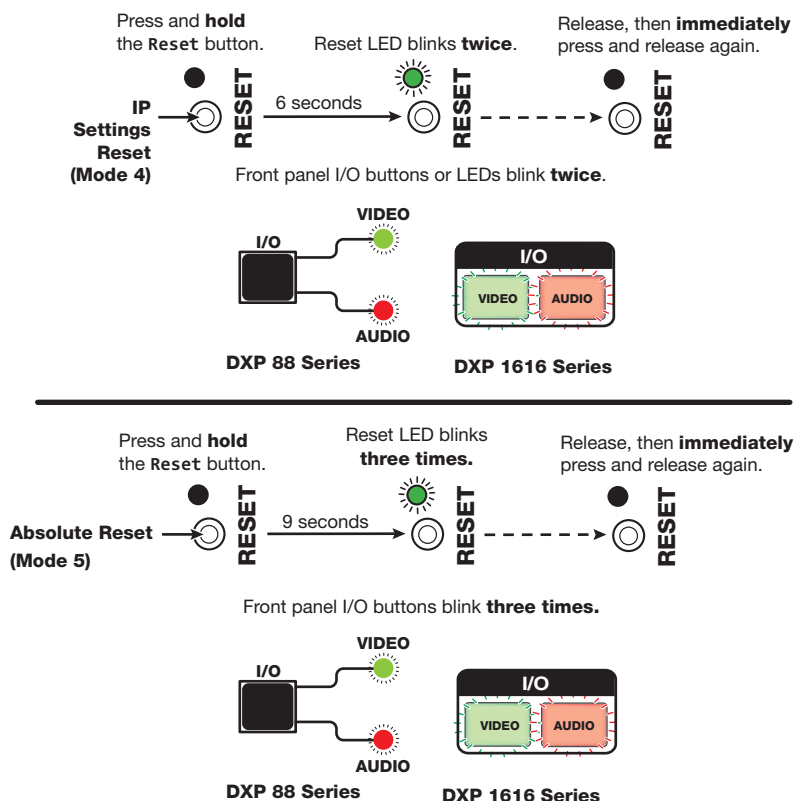

Figure 83. Soft Resets (Modes 4 and 5) on DXP 44, 84, 88, 168, and 1616 PLUS
- **DXP 44, 84, 88, 168, and 1616 PLUS** (see figure 83): The front panel **Video** and **Audio** buttons or LEDs blink twice (for a system reset) or three times (for an absolute reset).